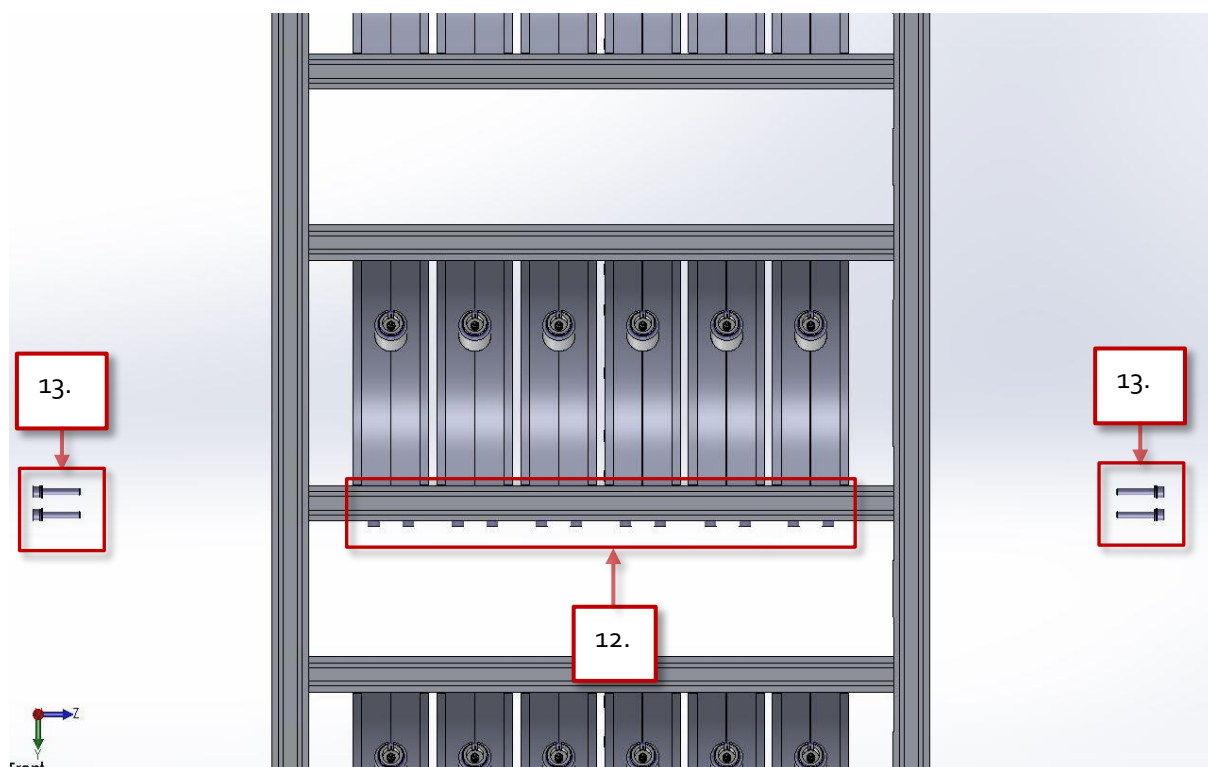

Figure 85 Loosen screws on the bottom connection bar
12. Loosen all the screws 5 mm (M6) on the bottom connection bar under the broken reactor, see Figure 85.
13. Remove the 4 screws (M6) on each side of the vertical bars holding the bottom connection bar under the broken reactor, see Figure 85.